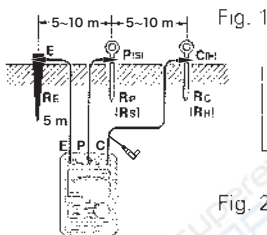

Fig. 1
As shown in Figs.1 and 2, the auxiliary bars are arranged parallel to the earth (E) at intervals of 5~10 meters. Where it is impossible to align them parallel, a certain amount of bending ( $\angle E, P(s) C(H) \geq 120^\circ$ ) is allowed.